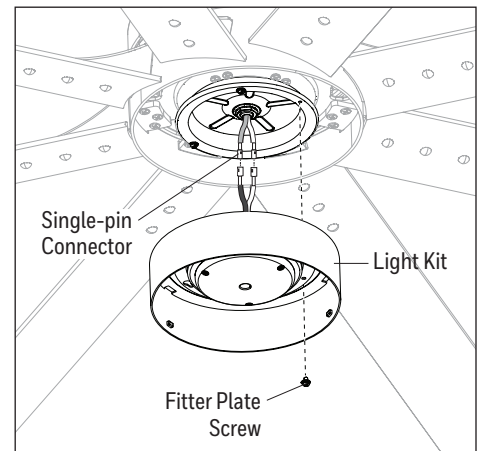

Figure 5.6
- Remove one of the three fitter plate screws preassembled to the fitter plate and loosen the other two but do not remove. Connect the single-pin connector from the fitter plate to the single-pin connector from the light kit -- Blue to Black and White to White. Align the slotted holes in the light kit with the loosened screws in the fitter plate. Turn light kit clockwise and replace the previously removed fitter plate screw. Tighten all screws (Figure 5.6).